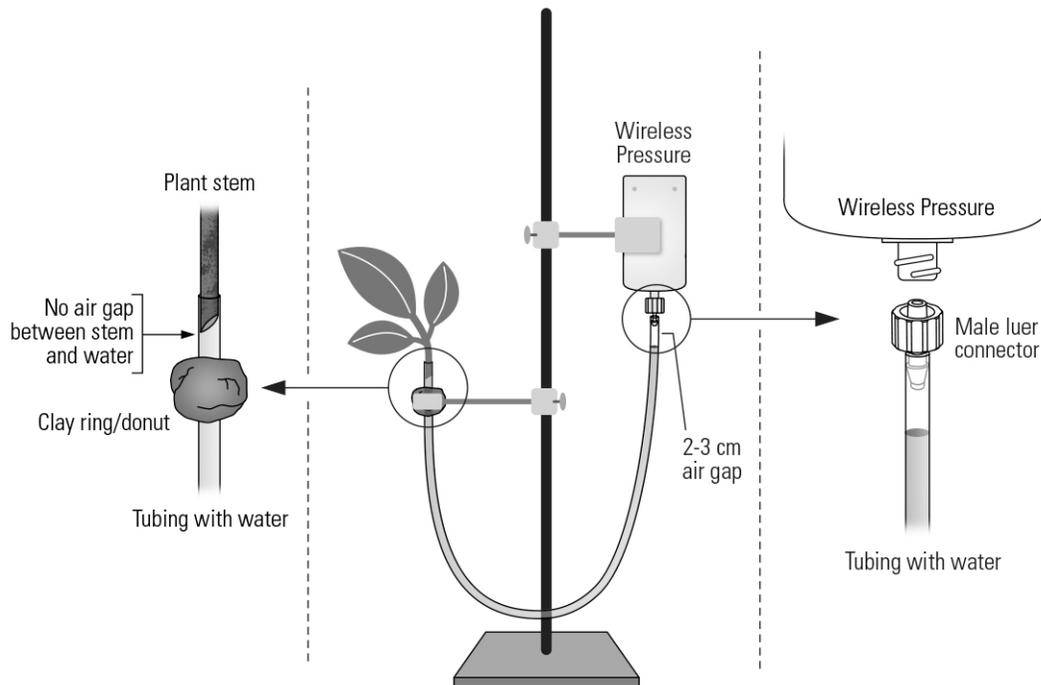

Figure 1: Transpiration setup with clay and thermometer clamp
- d. The plant stem must fit tightly in the tubing. Use petroleum jelly to create an airtight seal where the plant stem emerges from the tubing as shown in Figure 1 (left). Gently wrap a piece of clay slightly below the plant stem as shown.
6. Position the empty test tube or thermometer clamp below a utility or three-finger clamp as shown in Figure 1. Use the utility or three-finger clamp to attach the pressure sensor to the ring stand as shown.
7. Prepare to remove the tubing from the water. To prevent water from spilling out of the tubing when you remove it from the water, hold the tubing in a “U” shape with the sensor connector held higher than the plant side as shown in Figure 1 (center). You should have a continuous column of water inside the tube with no breaks or bubbles. Repeat Steps 5 and 7 if necessary.
9. Create a 2–3 cm air gap at the connector end of the tubing as shown in Figure 1 (right). Insert two-thirds of the toothpick into the tubing through the connector opening and quickly remove it. Repeat until a 2–3 cm air gap appears. Make sure there is no water blocking the air gap.
10. Remove the pressure sensor from the clamp and attach it to the connector. Make sure water does not back up into the sensor and do not allow the sensor to get wet. Return the pressure sensor to the clamp. The sensor connector and air gap should be slightly higher than the plant sample as shown in Figure 1.